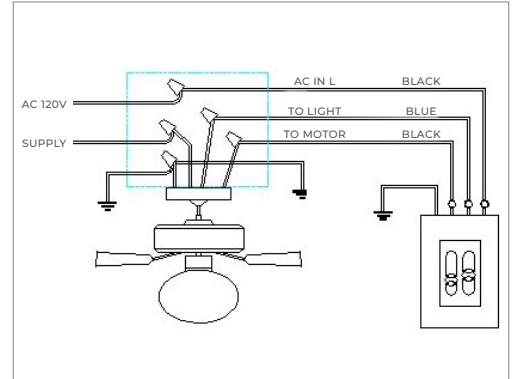

FIGURE 2
**E)** Make wiring connections and secure with provided wire nuts. (Figure 2)